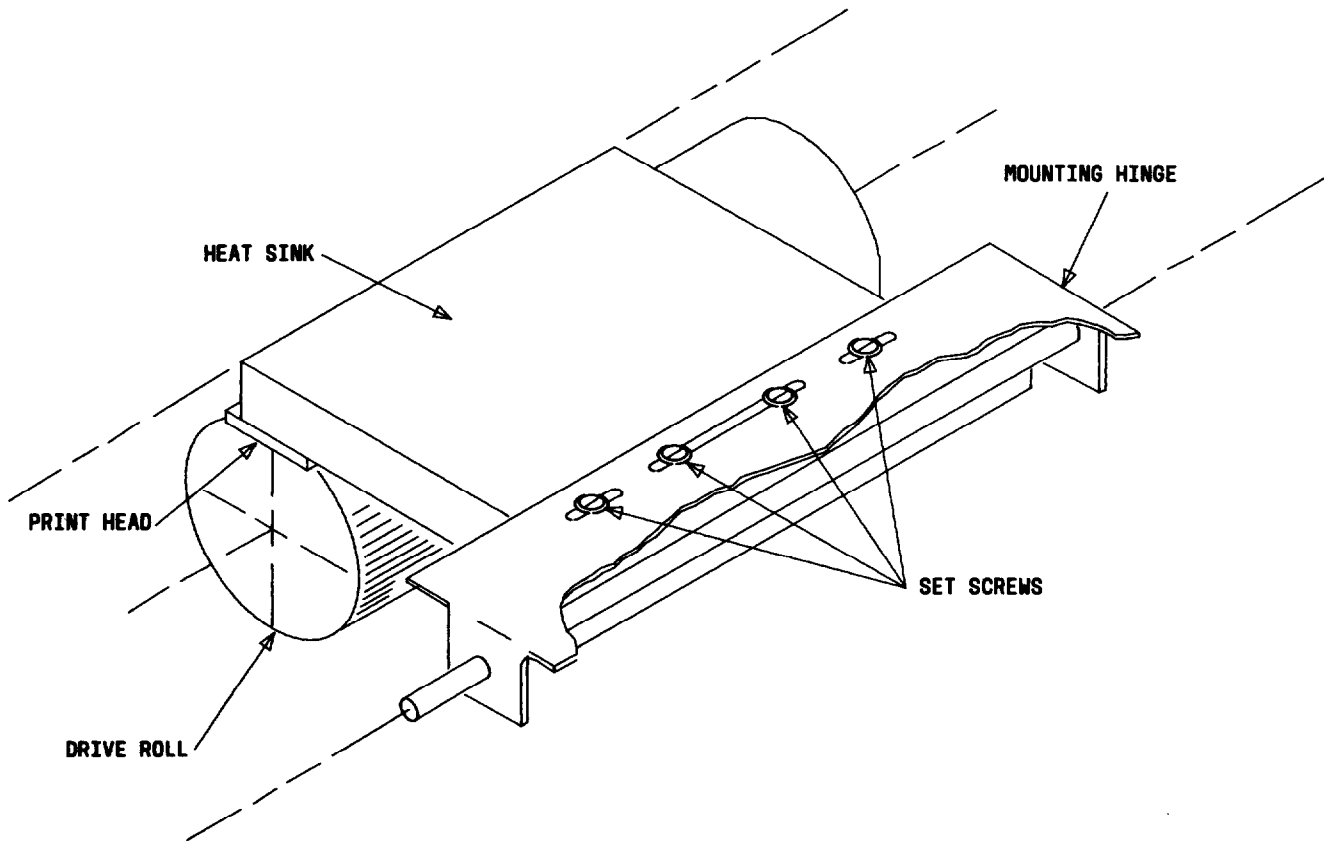

Fig. 6—Aligning the Printhead—AP-20 Printer
3.13 If the print density is irregular and lighter than normal, the printhead should be realigned. Open the printer door and loosen the four set screws holding the printhead to the mounting hinge (Fig. 6). Reposition the printhead until the print density is legible and regular, and tighten the set screws. Close the printer door.♦